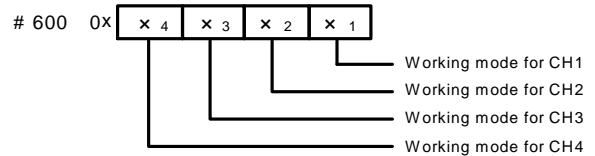

Figure 2-1 Mode setting element vs. channel
- BFM#600: channel mode selection, used to set the working modes of CH1 ~ CH4. See Figure 2-1 for their correspondence.